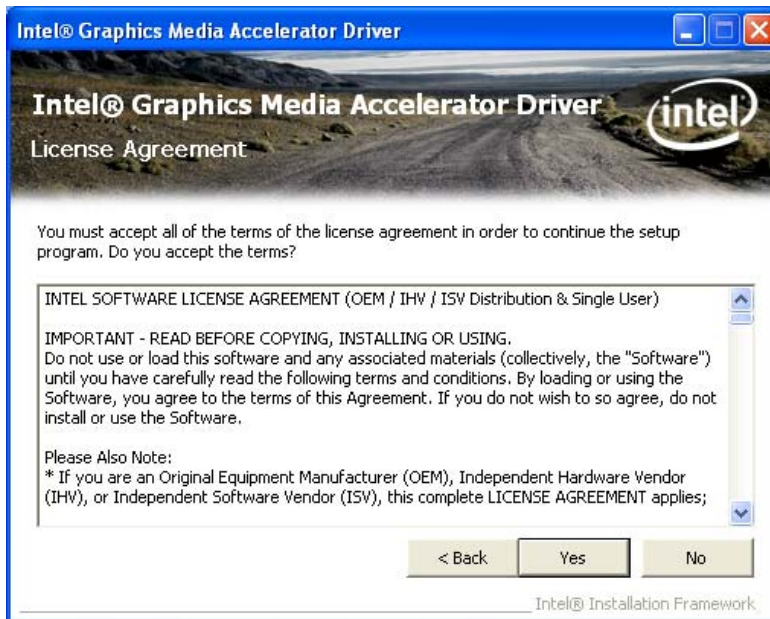

Figure 5-10: Graphics Driver License Agreement
**Step 10:** The License Agreement in Figure 5-10 appears.